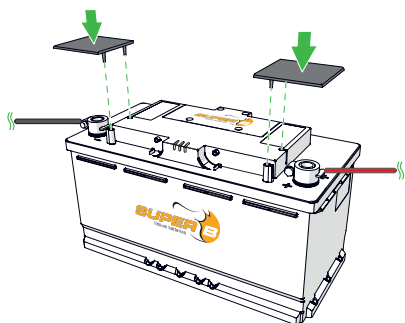

Figure 12. Place the accessory caps over that terminals. Accessory caps are not provided by Super B
5. Place the accessory caps over the terminals. (Figure 12)